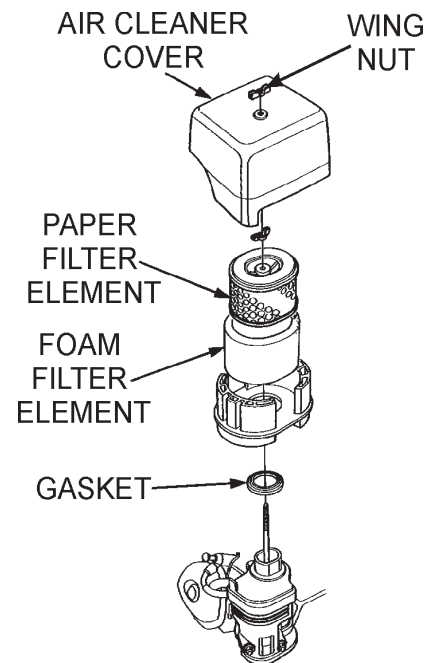

Figure 28. Engine Air Cleaner
1. Remove the air cleaner cover and foam filter element as shown in Figure 28.
2. Tap the paper filter element (Figure 28) several times on a hard surface to remove dirt, or blow compressed air [not exceeding 30 psi (207 kPa, 2.1 kgf/cm²)] through the filter element from the air cleaner case side. **NEVER** brush off dirt. Brushing will force dirt into the fibers. Replace the paper filter element if it is excessively dirty.